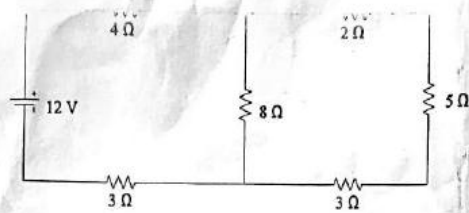

Figure Q3 (c)
- (c) (i) Using Thevenin theorem, calculate the current through the $8\ \Omega$ resistor in figure Q3 (c). (9 marks)